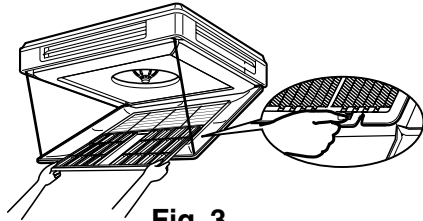

Fig. 3
- 2 Lock the air filter in place by pushing down on the knobs. (Refer to Fig. 3)